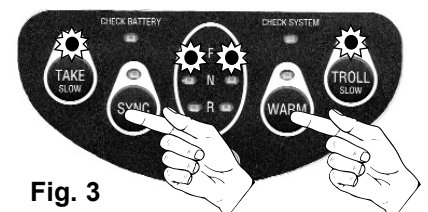

Fig. 3
4. Press the two center buttons (SYNC and WARM) on the main station handle 3 times (see Fig. 3).